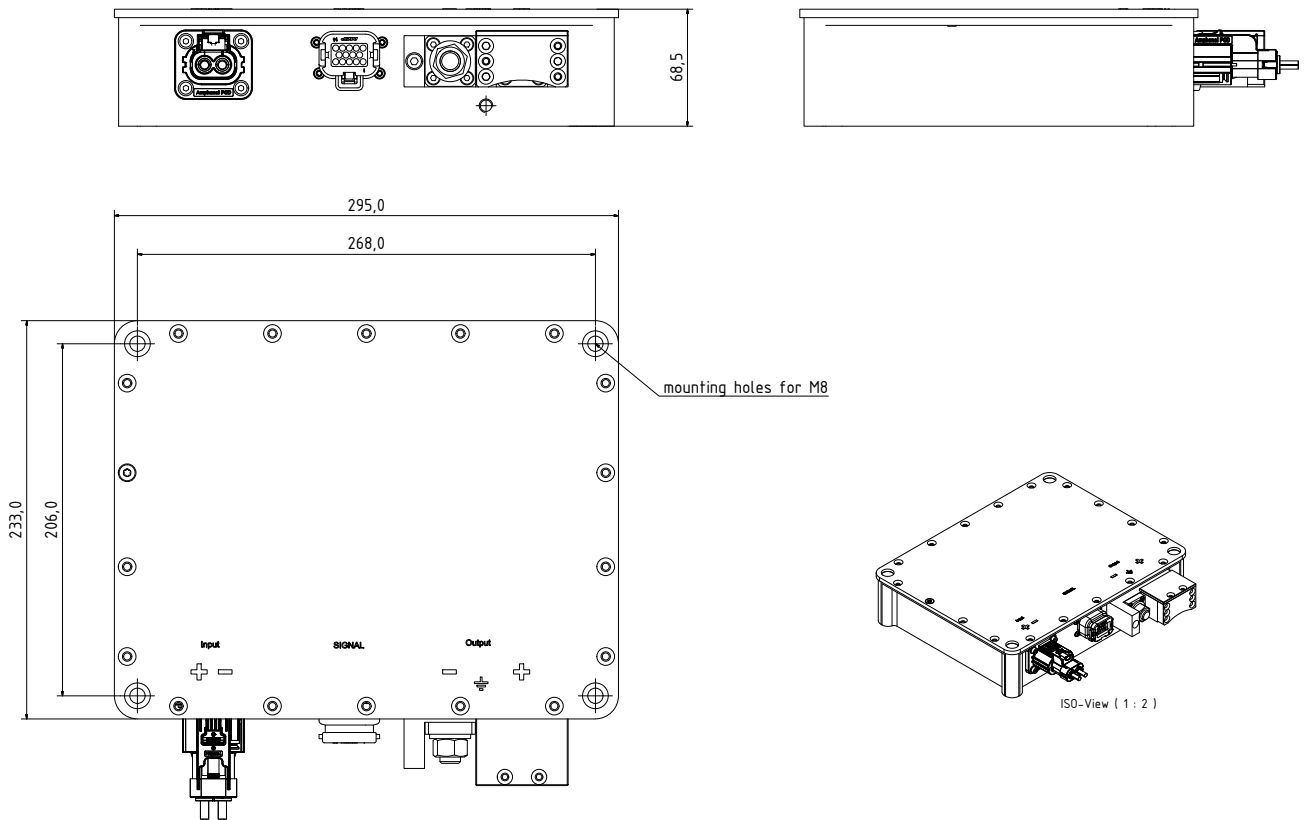

Figure 8.1: Dimensions
- M8 (below the output connections, see fig. 8.1)